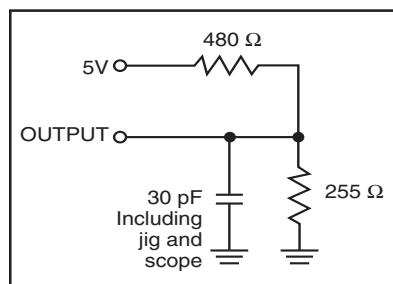

Figure 1
1. Test conditions assume signal transition times of 3 ns or less, timing reference levels of 1.5V, input pulse levels of 0 to 3.0V and output loading specified in Figure 1.
Output Load	See Figures 1 and 2